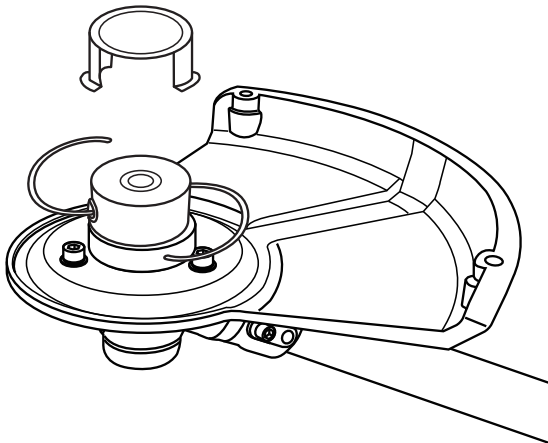

Fig. 25
1. Take off the cover from the trimming head (Fig. 25).